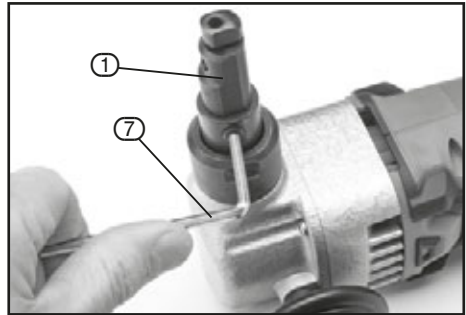

FIG.1
8.1 CUTTING HEAD POSITION AND DIRECTION CHANGING - FIGS. 1 - 4
- Loosen grub screw using supplied hex. key ⑦ (Fig.1.), rotate head to required position then re-tighten grub screw.